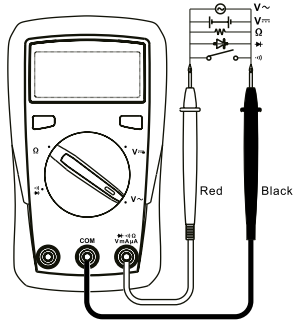

Figure 2
- 1. AC/DC voltage measurement (see Figure 2)
- 2. Resistance measurement (see figure 2)
- 3. Continuity measurement (see Figure 2)
- 4. Diode measurement (see Figure 2)